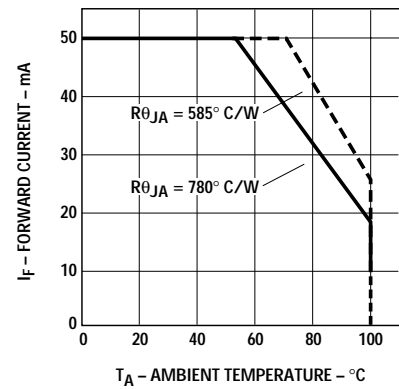

Figure 4. Maximum Forward Current vs. Ambient Temperature. Derating Based on  $T_{JMAX} = 130^\circ \text{C}$ .
1. Derate linearly as shown in Figure 4.